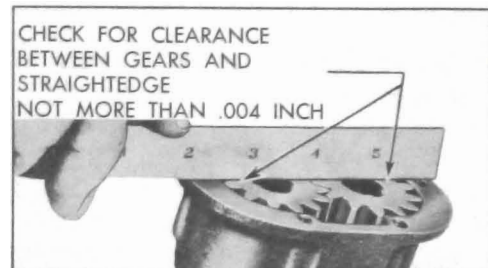

Figure 2-40—Checking Clearance of Gears at Cover
7. Check for clearance between gears and cover by using a steel straight edge as shown in figure 2-40. The clearance between straight edge and gears should be such that the gears turn freely and must not be more than .004".